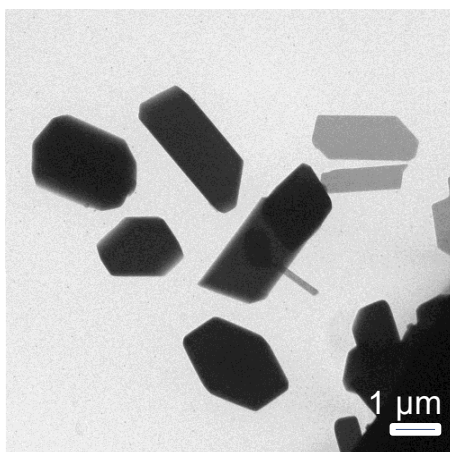

Fig. S3 TEM image of 8×10^{-5} M DMF/H₂O (5/1, v/v).
3. Fig. S3 TEM image of 8×10^{-5} M DMF/H ₂ O	pS3